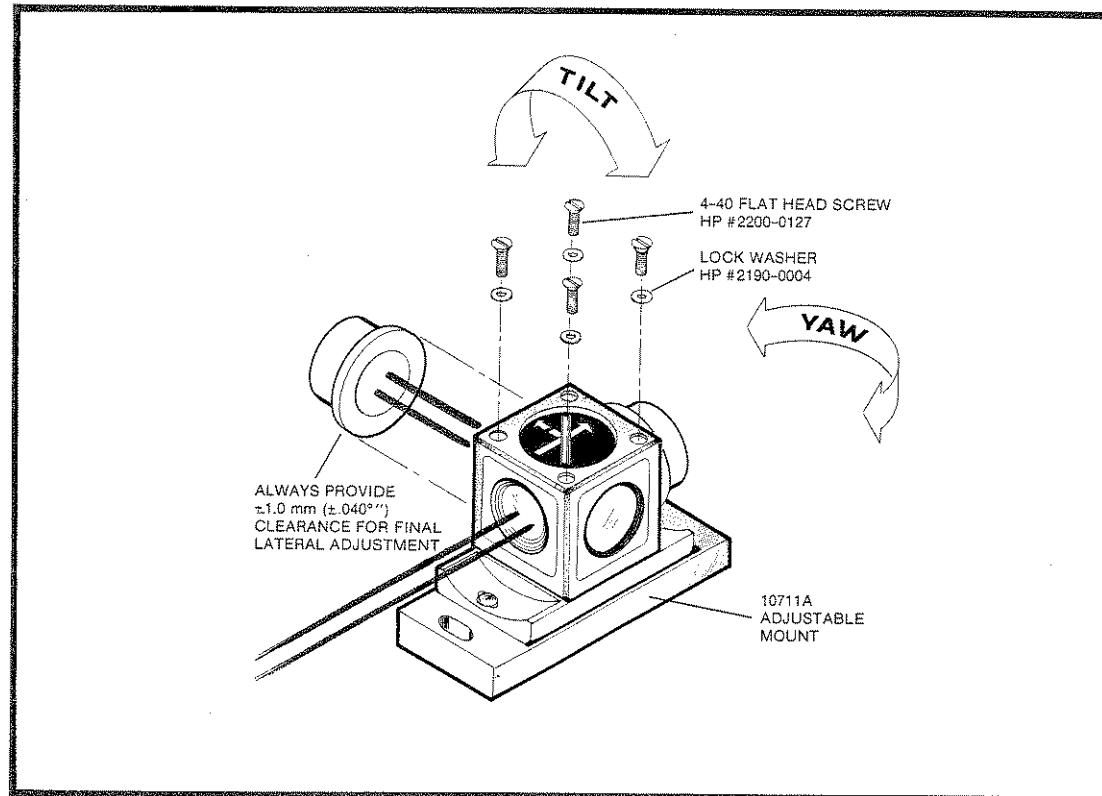

Figure 2-26. Horizontal Plane Mounting Using the 10711A Adjustable Mount
- b. *Figure 2-26 shows how to mount the linear or the plane mirror interferometer in the horizontal plane using the 10711A Adjustable Mount.*